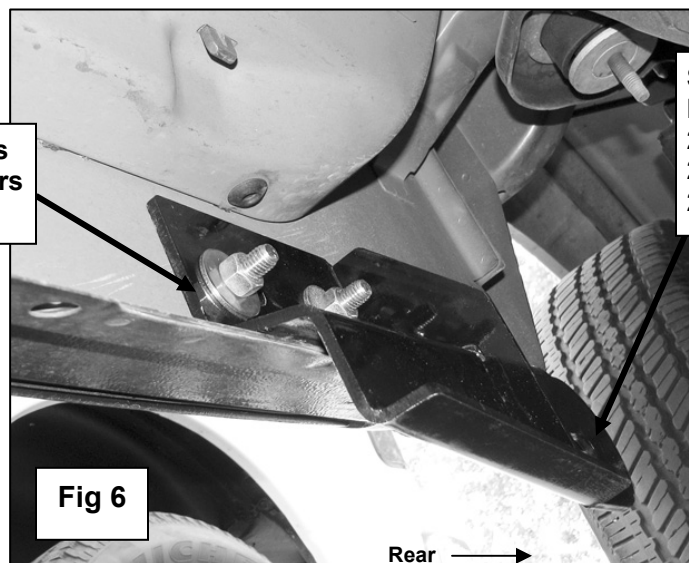

Fig 6
5. Select the passenger side Rear Mounting Bracket and attach it to the Double Bolt Plate with (2) 12mm Flat Washers, (2) 12mm Lock Washers and (2) 12mm Hex Nuts, **(Figure 6)**. Snug all hardware but do not tighten at this time.
6. Once the Mounting Brackets are partially mounted, carefully unpack and separate the driver and passenger Sidebars. Position the passenger Sidebar onto the Mounting Brackets using the included (2) 1/2" x 2" Hex Head Bolts, (2) 1/2" Lock Washers, and (2) 1/2" Flat Washers. Snug but do not tighten at this time.